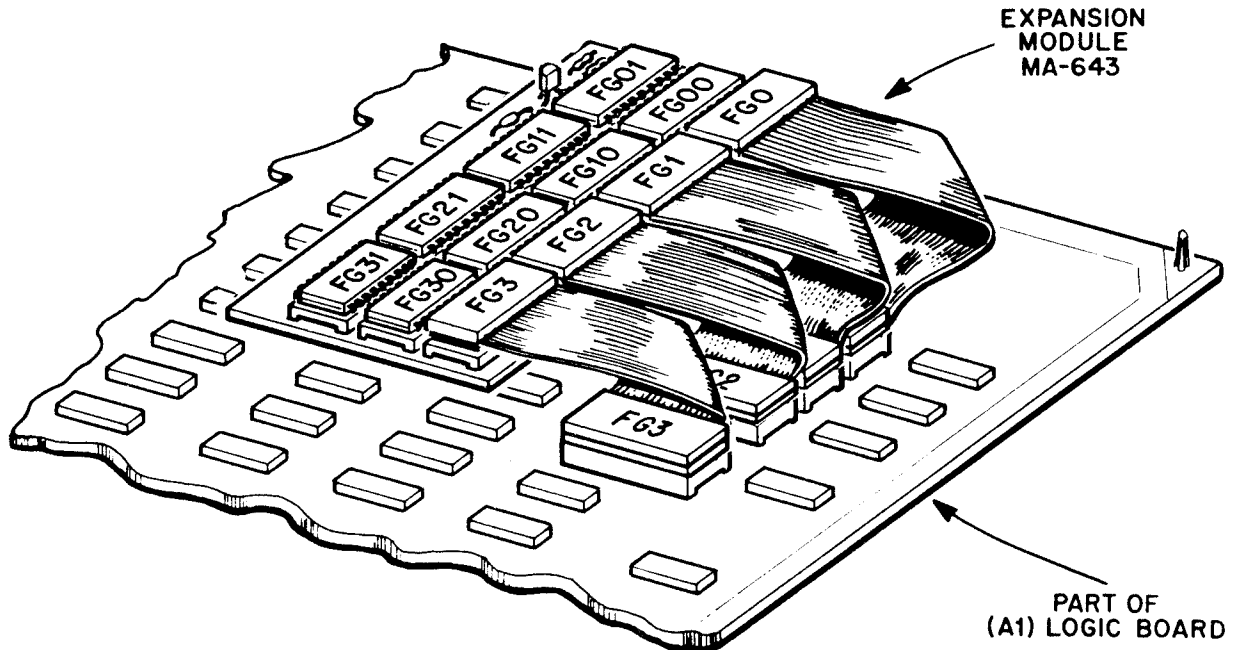

FIGURE 1.
- THE FOREGROUND OBJECT ROM (EXPANSION MODULE, MA-643) CONSISTS OF FOUR SERIES PAIRED 2764'S WHICH HAVE THE SUM EQUIVALENT OF DOUBLING THE MEMORY CAPACITY REQUIRED FOR THE Q\*BERTS QUBES (GAME GV-119). THE LOGIC PROM KIT UTILIZED IS PK-119. SOUND PROM KIT USED IN THIS GAME IS PKS-119. SEE FIGURE 1. FOR LOCATION OF THE EXPANSION MODULE AND FIGURE 2. FOR THE SCHEMATIC DIAGRAM. THIS CIRCUIT MODIFICATION REPLACES THE K4, K5, K6 AND K7-8 PORTION OF LOGIC BOARD ASSY.(A1), SCHEMATIC DIAGRAM BOTTOM OF PAGE 21, SHEET 3 OF 3.